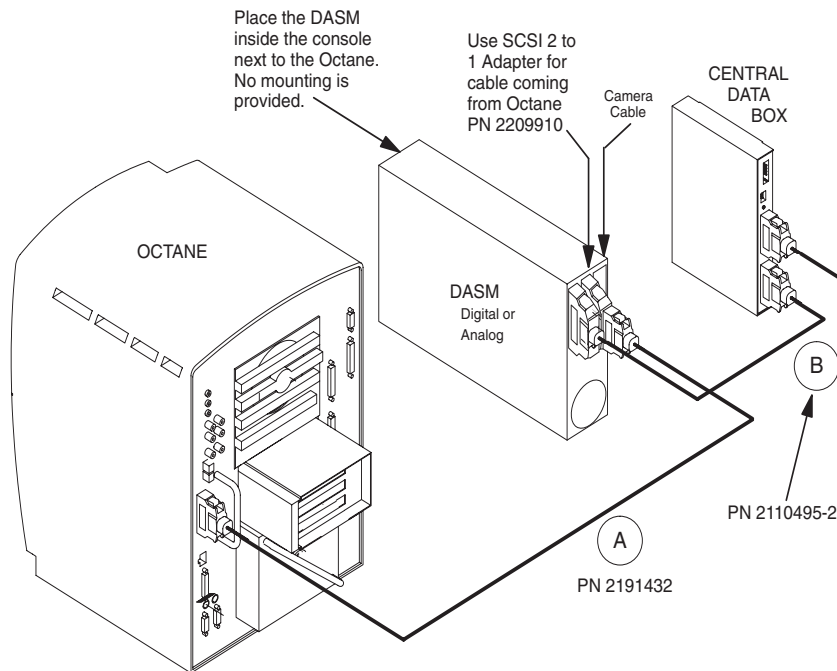

Figure 10-4 SCSI Cable Configuration with DASM
- 6.) Refer to Figure 10-4. Install SCSI 3 to 1 Adapter to the back of the DASM.